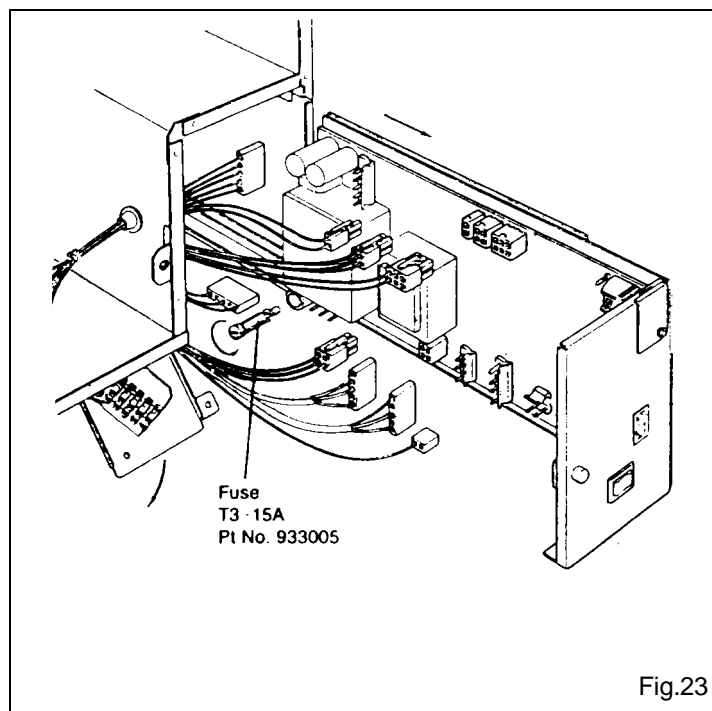

Fig.23
- d) Gently pull front panel forward removing connectors from the control as they become accessible. Fig. 23.